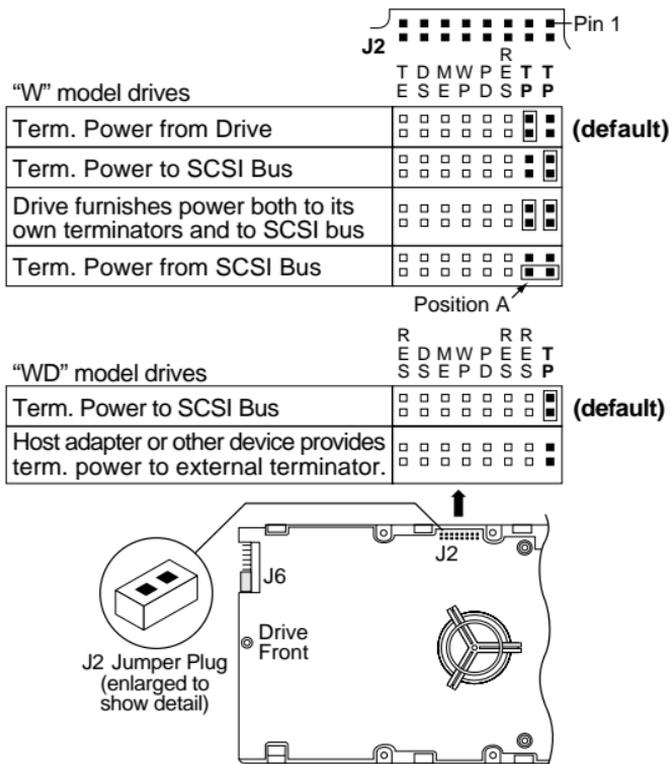

Figure 14. Setting terminator power jumpers
There are four possible terminator power (TP) configurations for “W” model drives (see Figure 14). You will not normally need to change this option and can leave the drive configured as it was shipped from the factory.
There are two possible terminator power (TP) configurations for “WD” model drives (see Figure 14).